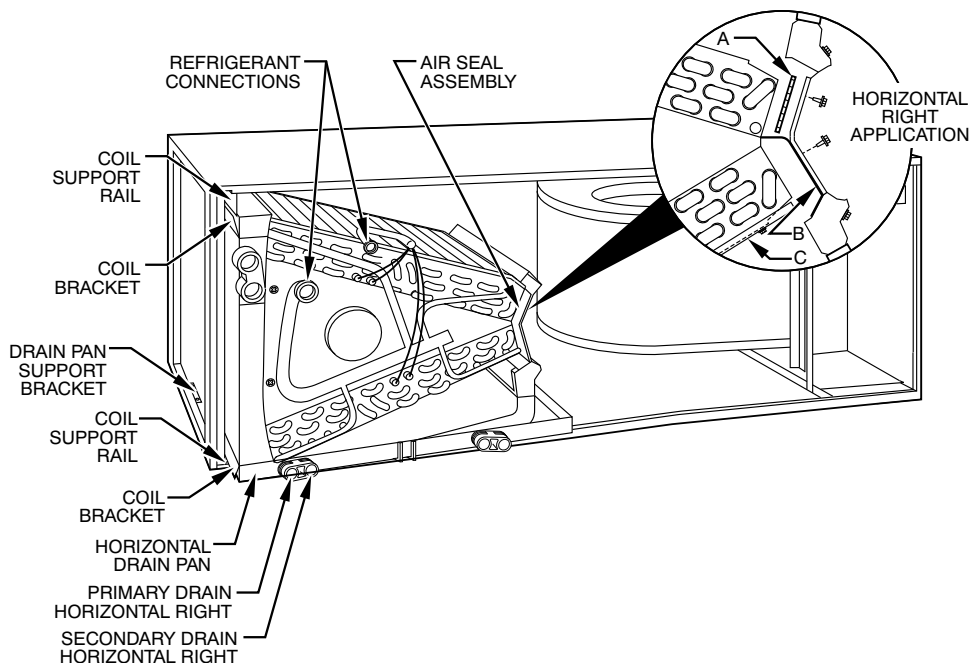

Fig. 7 – A-Coil in Horizontal-Right Application
- b. If fan coil is against wall, secure fan coil to wall stud using 1/8-in. (3mm) thick right-angle brackets. Attach brackets to fan coil using No. 10 self tapping screws and to wall stud using 5/16-in. (8mm) diameter lag screws (see Fig. 7).